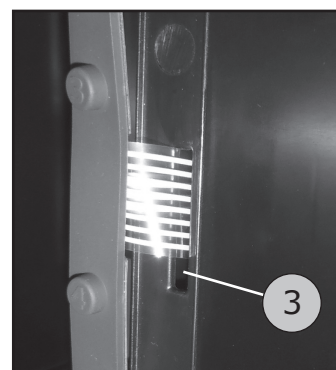

Figure 43
4. Remove the protective film from the new push-button panel and put its flat strip cables in the intended slots (3, figure 43).